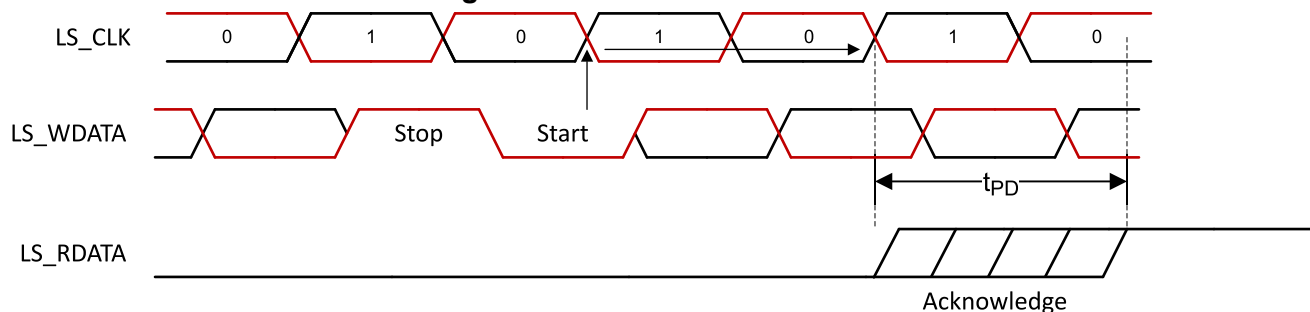

Figure 6-10. LPSDR Read Out
(1) Device electrical characteristics are over Recommended Operating Conditions unless otherwise noted.
(2) See Figure 6-10 and Figure 6-11